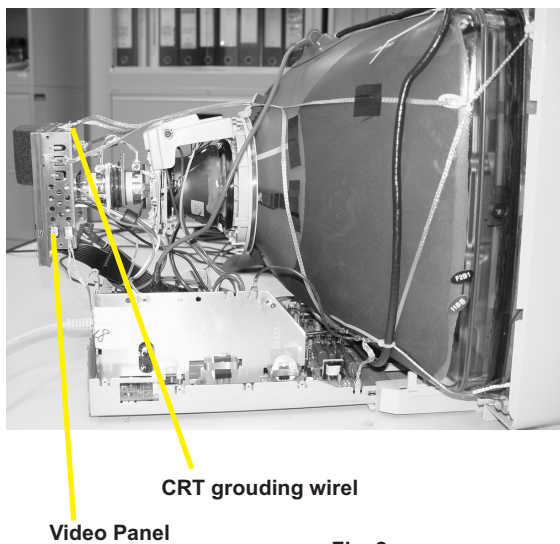

Fig. 2
- Disconnect the wire between metal shield of Video panel and CRT neck as shown in Fig. 2.